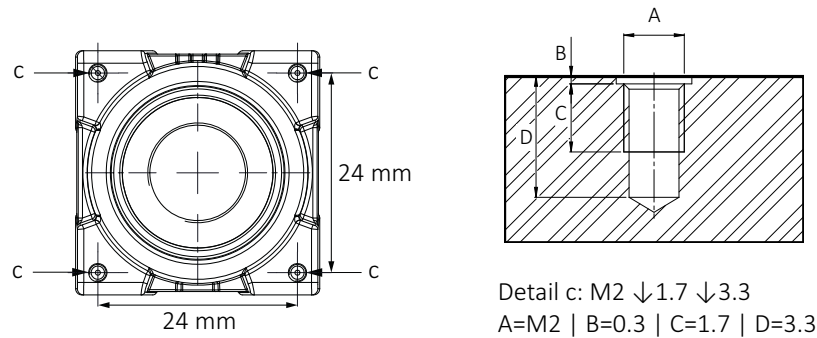

Figure 47: Camera front with mounting threads (c)
1. Mount the camera to the base using suitable M2 screws at 0.17 Nm maximum torque for a thread engagement (C) of 1.7 mm between screws and mounting threads, see Figure 47. For technical drawings, see Dimensions and mass on page 126.